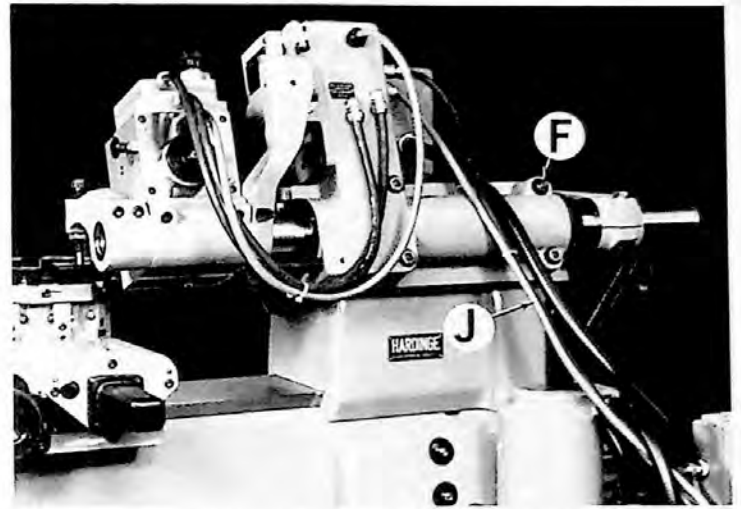
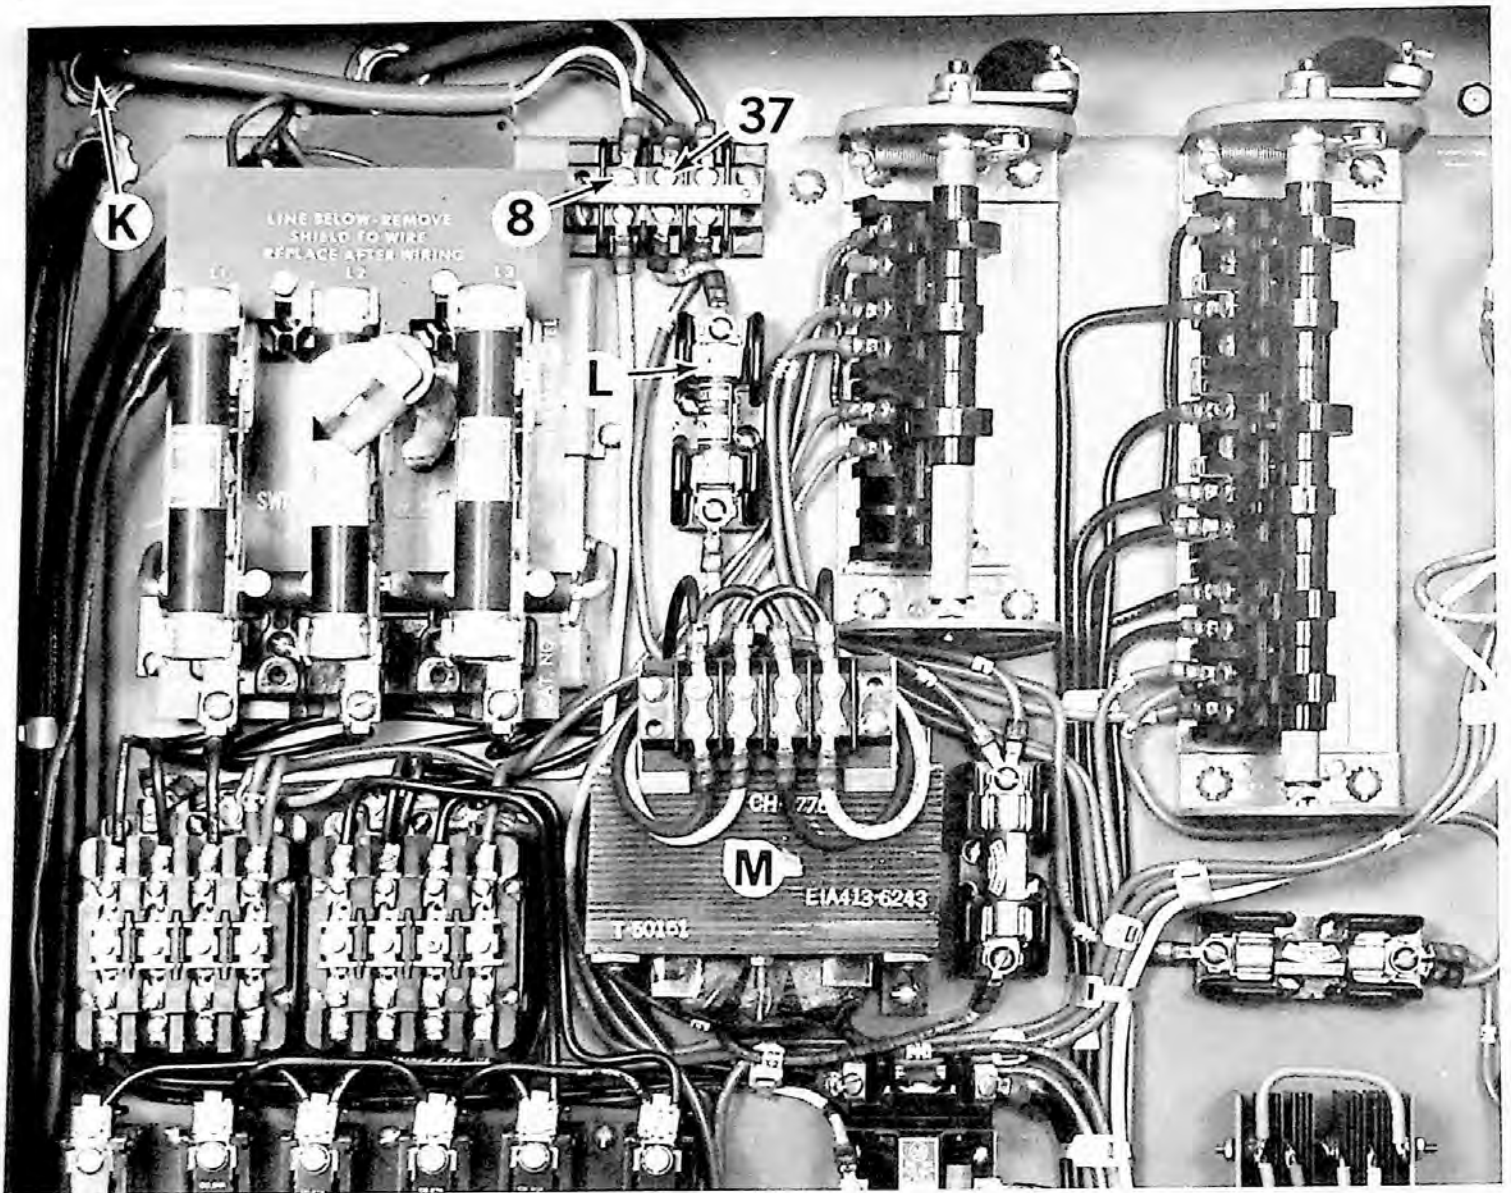

Figure 4 — Rear View of Threading Unit
Figure 6 — Main Switch Case
4. Position threading unit on base plate with hoist and sling and assemble four washers and nuts "F", Figure 4. **DO NOT OVERTIGHTEN NUTS "F", SNUG IS SUFFICIENT.**
1. Disconnect power source. Feed cable "J", Figure 4, through hole "K", Figure 6.
## ELECTRIC CONTROL FUNCTIONS (Figure 6)
1. Disconnect electrical power source and remove wires at terminals 8 and 37, Figure 6.
4. Remove four nuts and washers "F", Figure 4, and remove complete threading unit with hoist and sling.